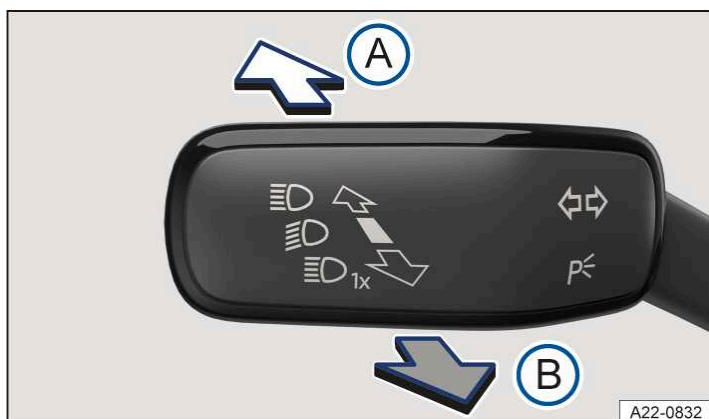

Fig. 1 On the left-hand side of the steering column: turn signal and main beam lever.
3. Tap the lever forward from the basic position → Fig. 1 (A).